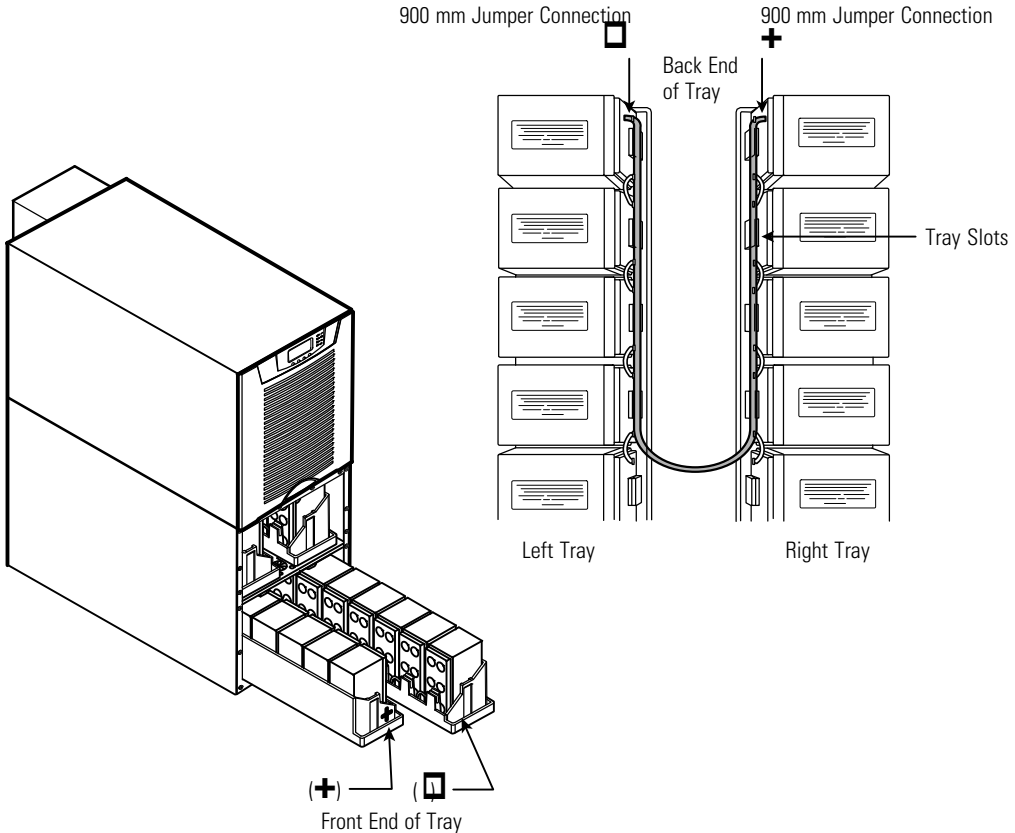

Figure 4. Sliding the Battery Trays into the Cabinet
6. Load the battery trays into the UPS, beginning with the top cabinet, as described below (see Figure 4):